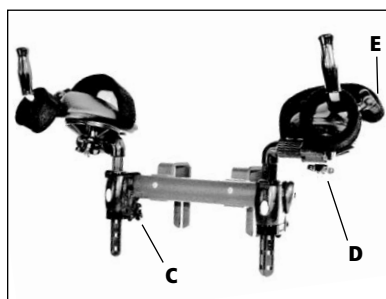

Figure 8
Installation K132 Arm Prompt Set (see Figure 8) Loosen the clamp knob (C) and pull it down to free the curved metal piece. Slip the clamp over the oval tube of the Mounting Bracket with the main part of the clamp to the inside of the Mounting Bracket. Close the curved metal piece, pull the knob up and tighten it securely.